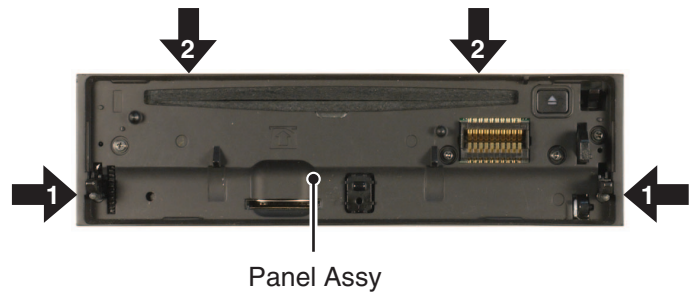

Fig.1
## ● Removing the Panel Assy (Fig.1)
3. Hold the PU at the position A as shown in Fig 1. Slide the PU as far as possible toward the holder in the feeding screw so that a joint on the outer end of the feeding screw is loosened.